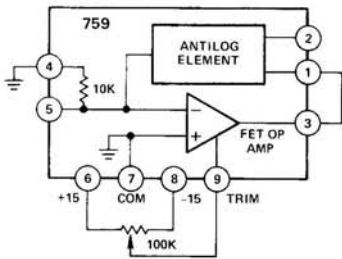

Figure 3. Trimming  $E_{OS}$  in Log Mode
**Trimming  $E_{OS}$**  – The amplifier's offset voltage,  $E_{OS}$ , may be trimmed for improved accuracy with the model 759 connected in its log circuit. To accomplish this, a 100k $\Omega$ , 10 turn pot is connected as shown in Figure 3. The input terminal, Pin 4, is connected to ground. Under these conditions the output voltage is: